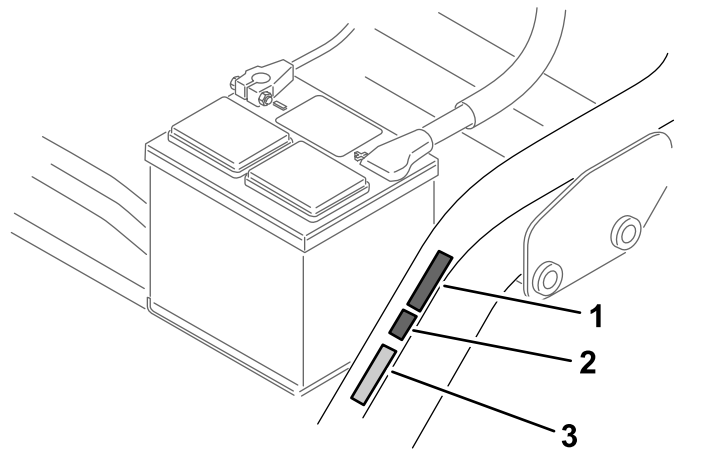

Figure 16
- Apply the CE mark decal next to the serial plate (Figure 16).
- Apply the CE production year decal next to the CE mark decal (Figure 16).